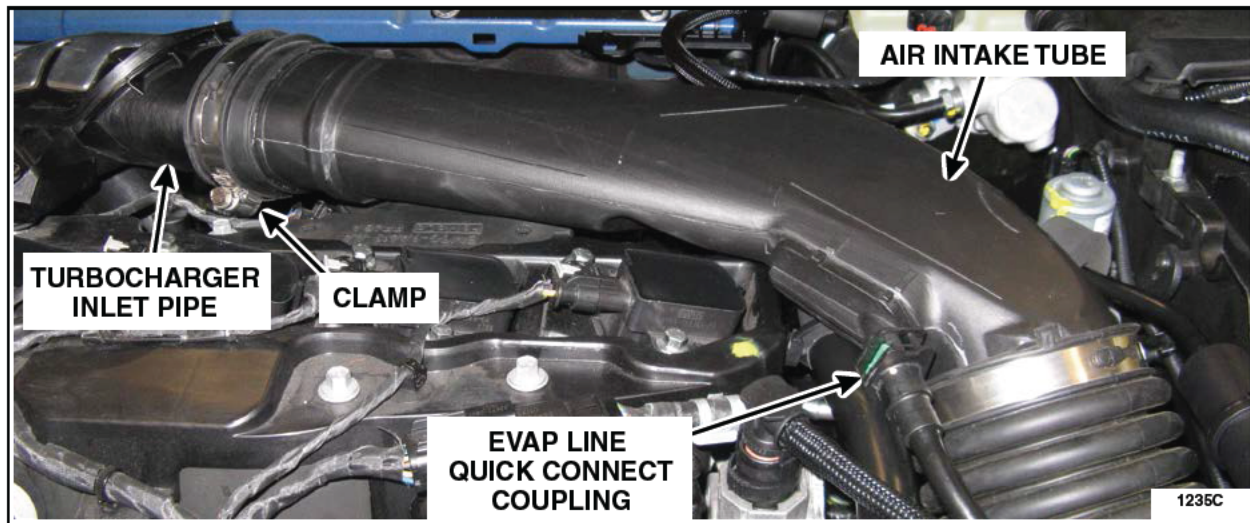

FIGURE A1
8. Disconnect the EVAP line quick connect coupling from the air intake tube center section. Set the clip aside for re-installation to prevent it from falling into the engine compartment. See Figure A1.
9. Loosen the clamp and disconnect the air intake tube from the turbocharger inlet pipe. See Figure A1.